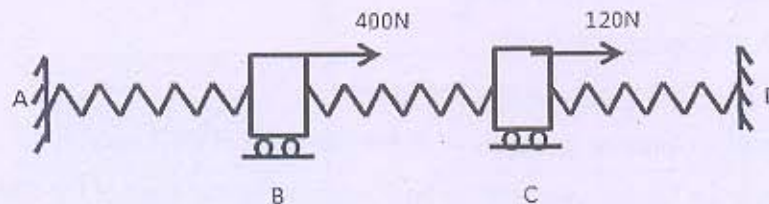

Figure: 1
- Q - 5 (a) Calculate the displacement with given data using Modified Newton Raphson method (minimum three iteration).(Ref. Figure 1) [08]